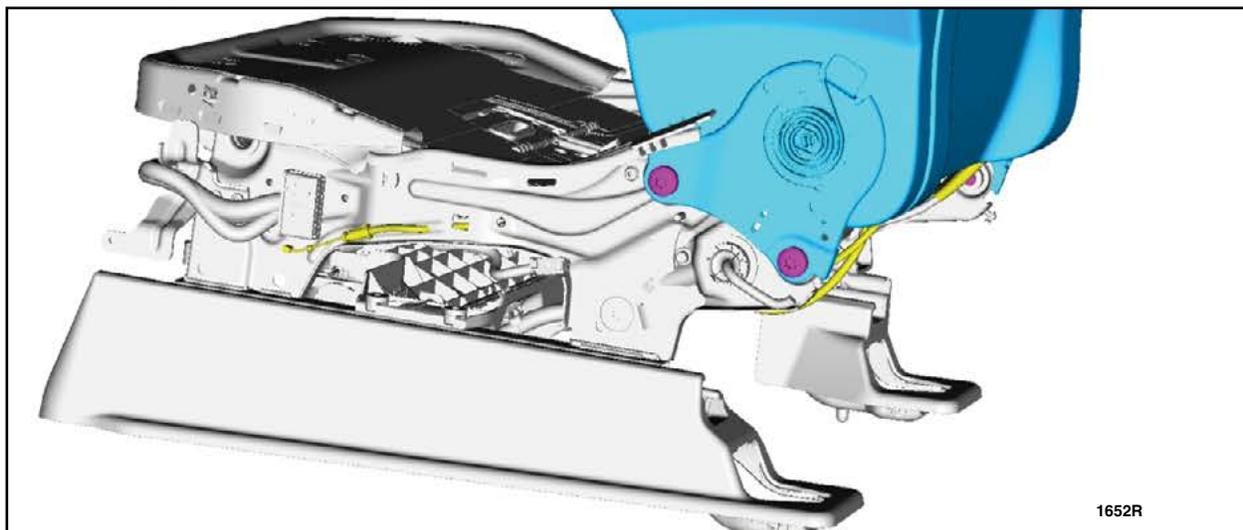

FIGURE 16
12. Remove and discard the four bolts and remove the front seat backrest. Disconnect the lumbar cable if equipped. See Figure 16.